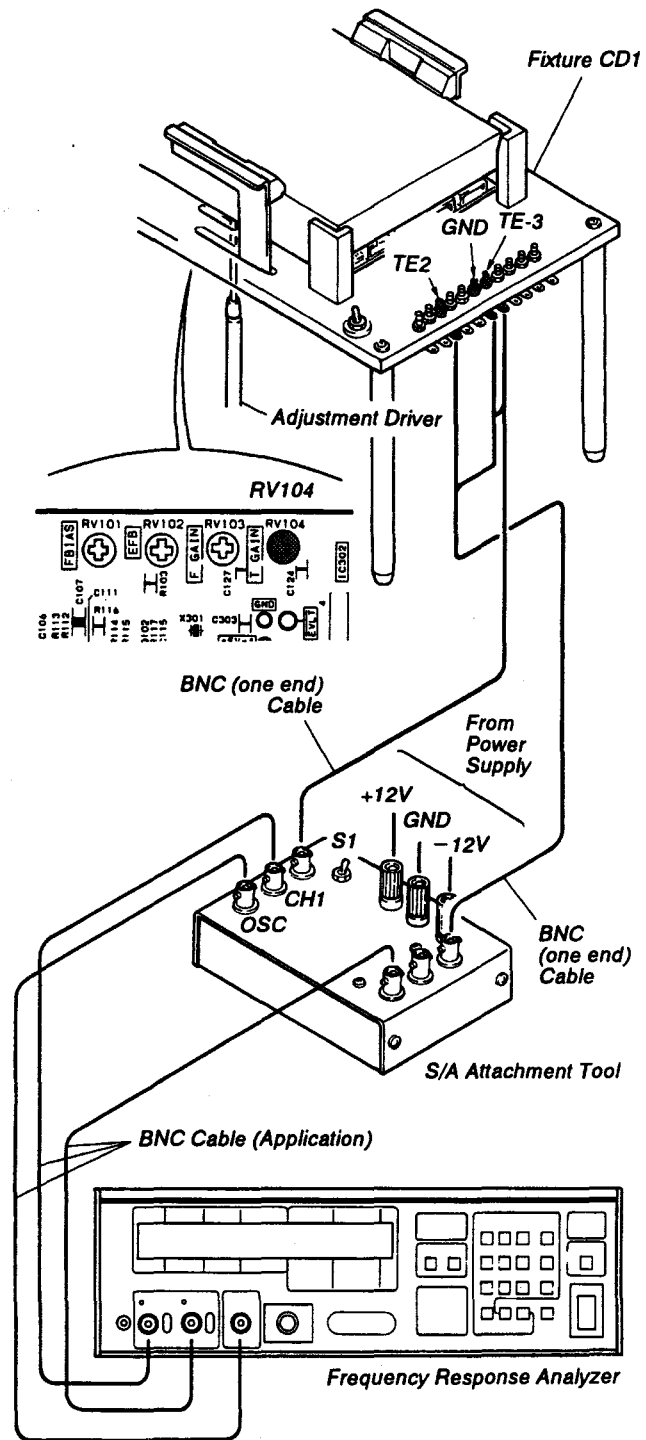

Fig. 5-1-5 Tracking Servo Loop Gain Adjustment
- a. Change the BNC (one end) cable connection location to TE-2 from FE-2 terminal. (Refer to Fig. 5-1-5)
- b. Change the BNC (one end) cable connection location to TE-3 from FE-3 terminal. (Refer to Fig. 5-1-5)